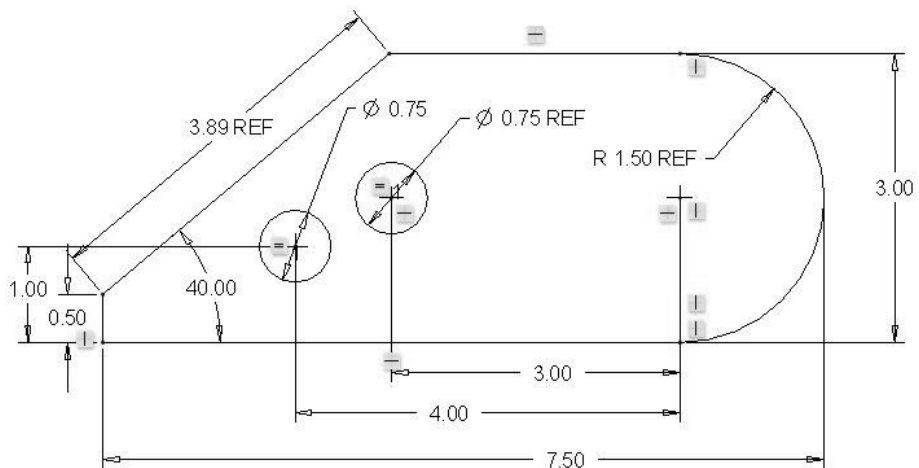

Figure 3-24 Design Intent Dimensions
Step 9: Use  to add a reference dimension showing the diameter of the other small hole, the value of the big radius, and length of the slanted line. These dimensions are not needed to define the figure, thus they are for reference only (Figure 3-24). Normally you would not do this, but we are practicing here.